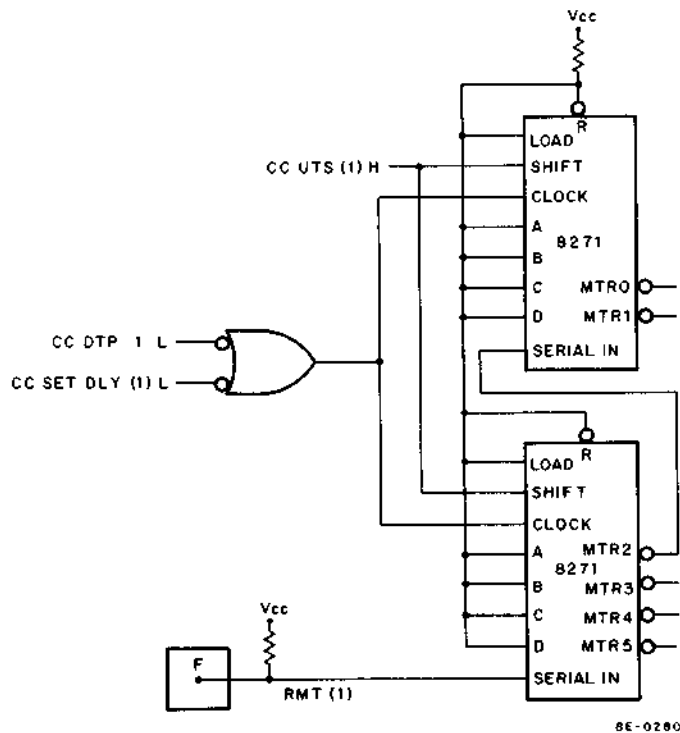

Figure 8-14 Mark Track Register
When SET DLY clears it also clears the Mark Track Register (Figure 8-14, Paragraph 8.11).
The Mark Track (MT) Register (Figure 8-14) receives serial data from the mark track (RMT) containing the mark track codes and outputs 6 bits of parallel data for transfer to the AC. The MT Register is made up of two 8271 ICs. (See Appendix A.8, Volume 1, for timing diagram pin locator and truth table). The 8271 IC is a 4-bit shift register that receives a parallel serial input and provides a parallel output. The parallel output is applied to the Data Register (Figure 8-16) for the transfer to the AC during a SDRC instruction.